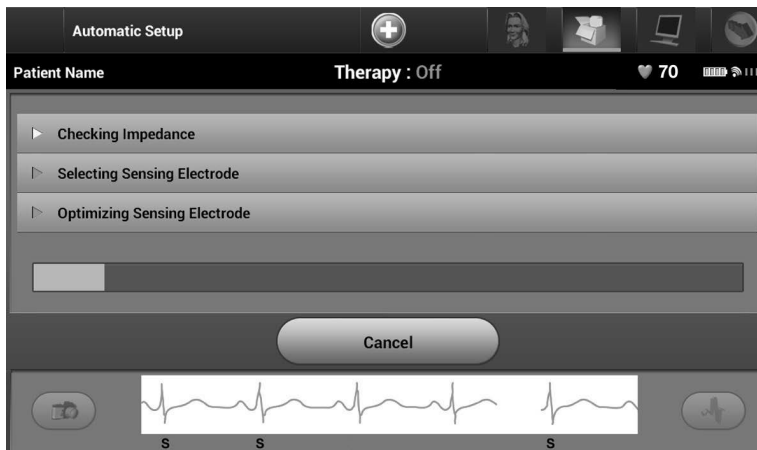

Figure 26: *Measuring electrode impedance*
- Perform the shock electrode integrity check to measure electrode impedance (Figure 26). Normal sub-threshold impedance range is < 400 Ohms.